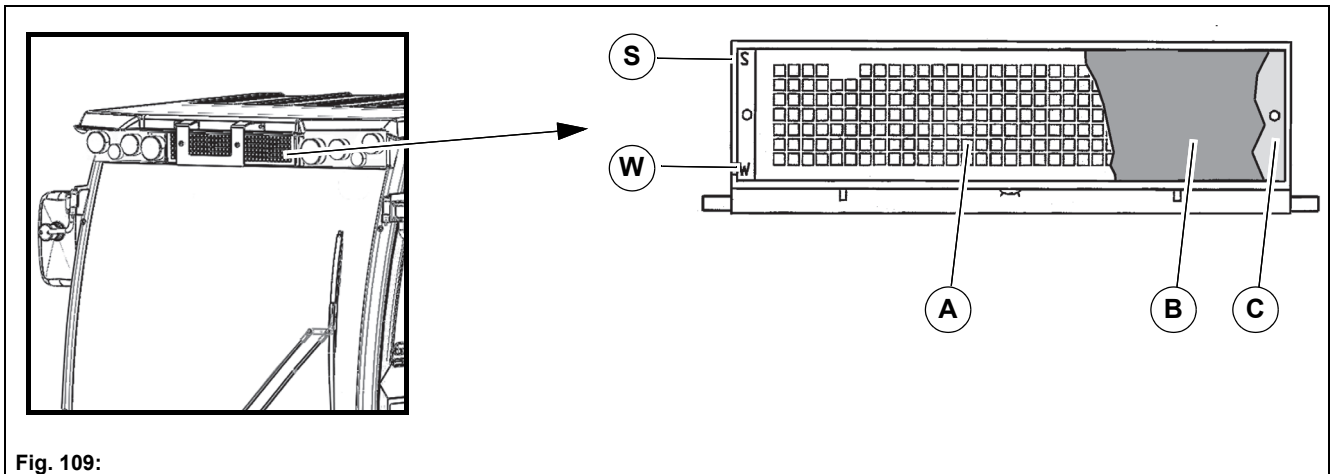

Fig. 109:
2. Loosen the four mounting screws of the protective grille **Fig. 109-A** and remove the protective grille.
3. Remove and clean the cab air filter **Fig. 109-B** and renew it if necessary.
Insert the perforated plate **Fig. 109-C** located behind the cab air filter so that the mark points to the "S".